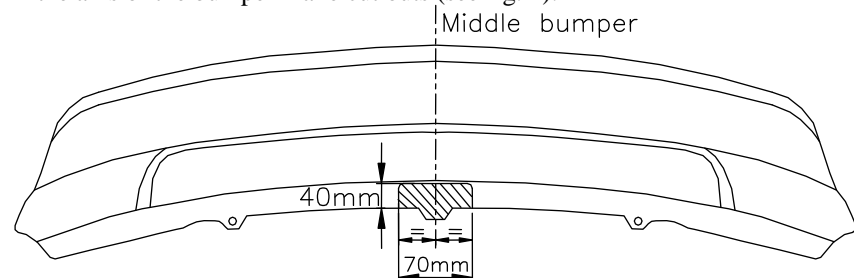

Fig. 2
2. In the axis of the bumper make cut outs (see fig. 2).